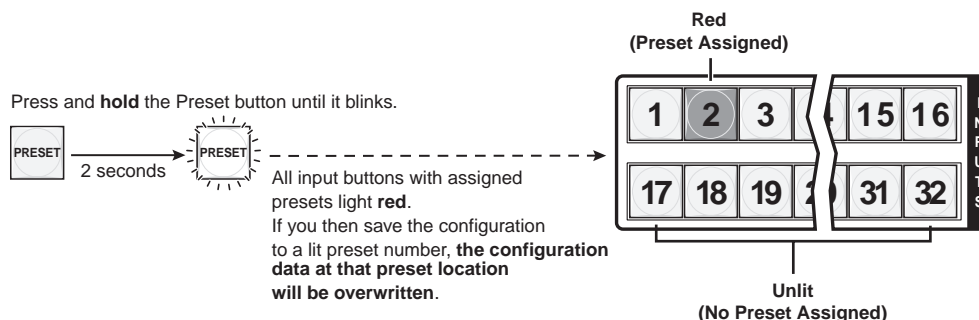

Figure 3-44 — Enter Save Preset mode
2. Press and **hold** the Preset button for approximately 2 seconds until it blinks (figure 3-44).